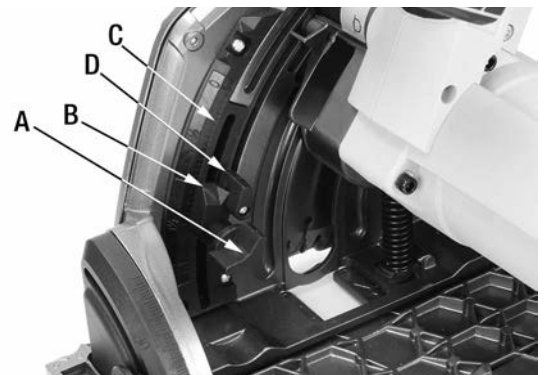

FIGURE 5
- 3) Loosen the plunge depth setting lock knob (A) Fig.5 and move up or down to the desired depth setting using the indicator arrow (B) and the scale (C) as a guide.
- 4) If you are using your Plunge Cut Track Saw without the optional 50" track (accessory mod. KW-300), turn the track compensation lever (D) Fig.5 counterclockwise to the upper position as shown to compensate for the lack of thickness of the track.
- 5) If you are using your Plunge Cut Track Saw with the optional 50" track (accessory mod. KW-300), turn the track compensation lever (D) Fig.5 clockwise to the lower position to compensate for the thickness of the track.
- 6) Once your adjustment is made, tighten the plunge depth setting lock knob (A) Fig.5. Make a test plunge to verify your setting before plugging in your Plunge Cut Track Saw.